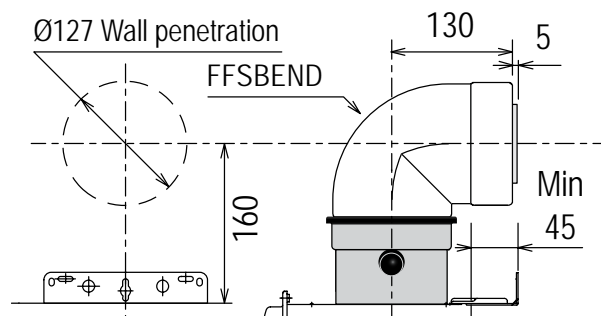

Fig. 9
1. Using the dimensions provided in Fig. 9, mark a point along the appliance centring that is 160mm from the top of the water heater. This mark forms the centre point for the 127mm diameter wall penetration.